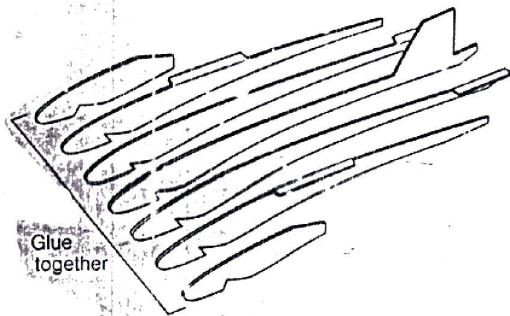
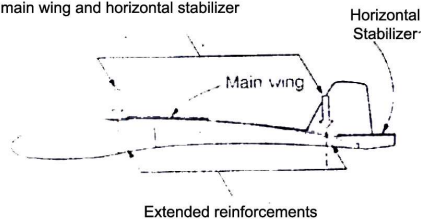

Fig.22 Composition of the fuselage
Fig 23 Reinforcement of easily bendable parts
To meet these requirements the actual construction of the plane body, as shown in Figure 22, is made up of layers of heavy paper. There are more layers in the nose for added strength in Figure 23, the dashed lines show where the glider tends to bend easily. To prevent this parts (A) and (B) extend past the arrow marks for reinforcement.